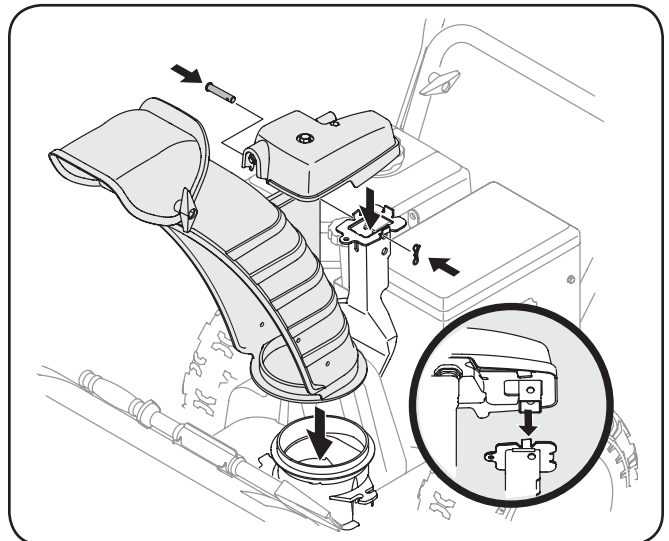

Figure 3-13
2. Place chute assembly onto chute base and secure chute control assembly to chute support bracket with clevis pin and cotter pin removed earlier. See Fig. 3-13.